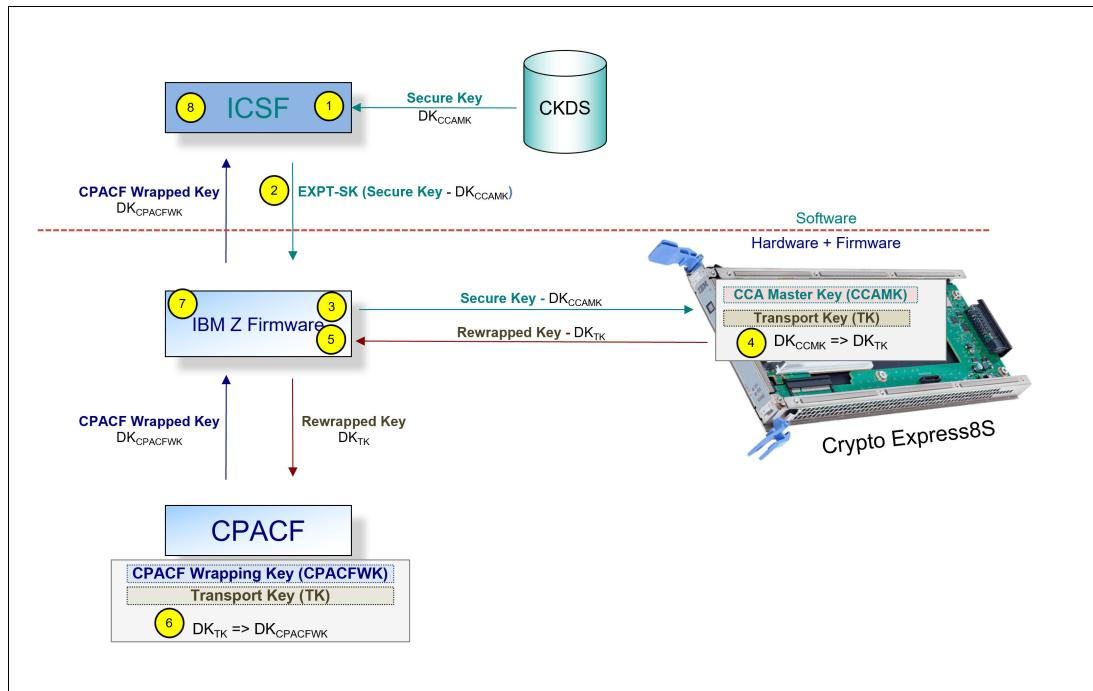

Figure 6-5 CPACF key wrapping for Express8S, Crypto Express7S, and Crypto Express6S
Wrapping keys are generated during the clear reset each time an LPAR is activated or reset. No customizable option is available at Support Element (SE) or Hardware Management Console (HMC) that permits or avoids the wrapping key generation. This function flow for the Crypto Express8S, Crypto Express7S, and Crypto Express6S adapters is shown in Figure 6-5.
A new segment in the profiles of the CSFKEYS class in IBM RACF restricts which secure keys can be used as protected keys. By default, all secure keys are considered not eligible to be used as protected keys. The process that is shown in Figure 6-5 on page 212 considers a secure key as the source of a protected key.